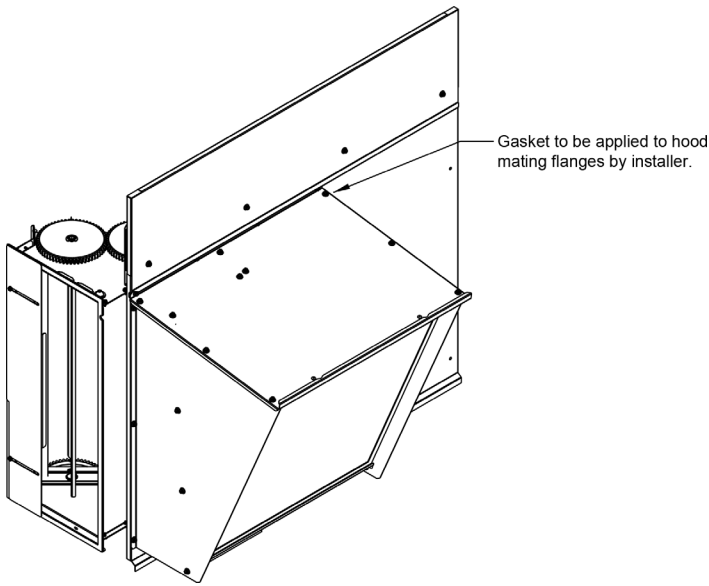

FIGURE 3 - FULLY ASSEMBLED HOOD
- Apply gasket from the hardware bag to the mating flanges of pre-assembled economizer hood. Then fasten the hood to the economizer cover panel using provided screws. (See Figure 3)